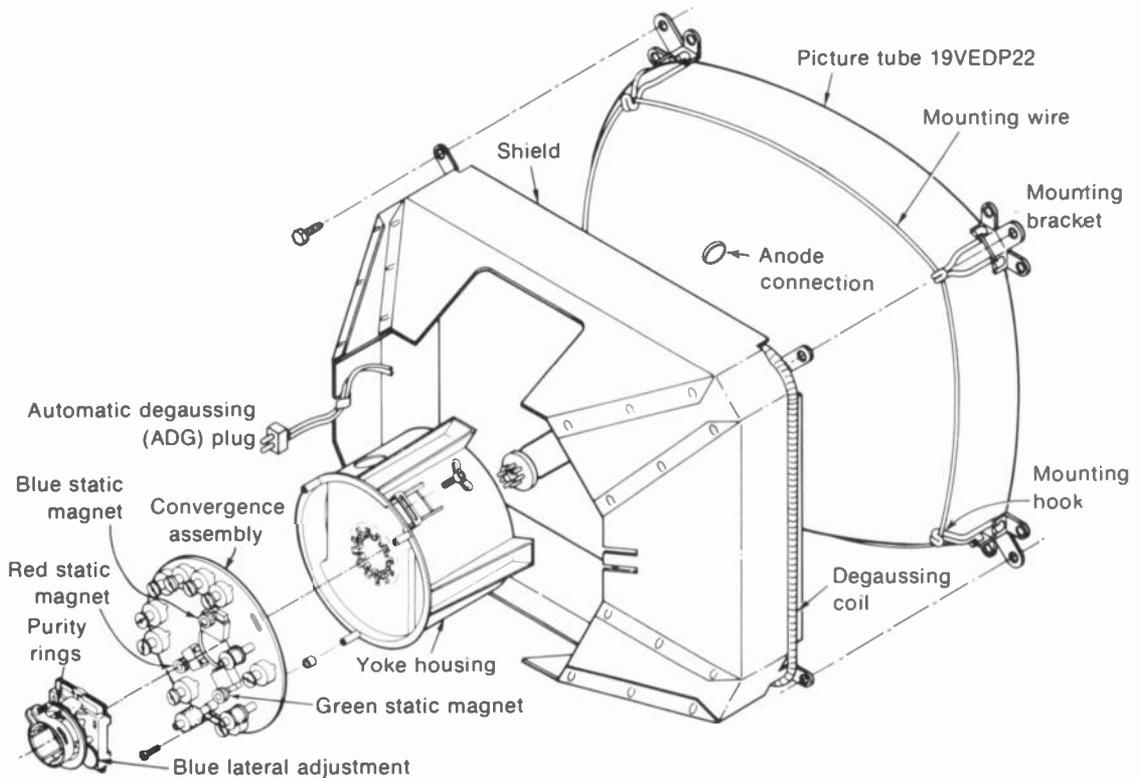
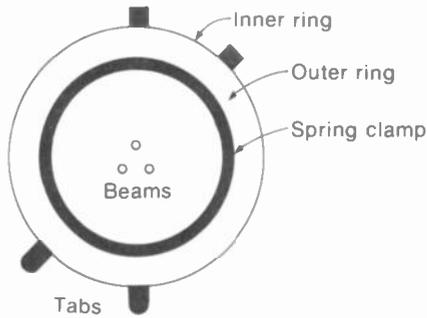
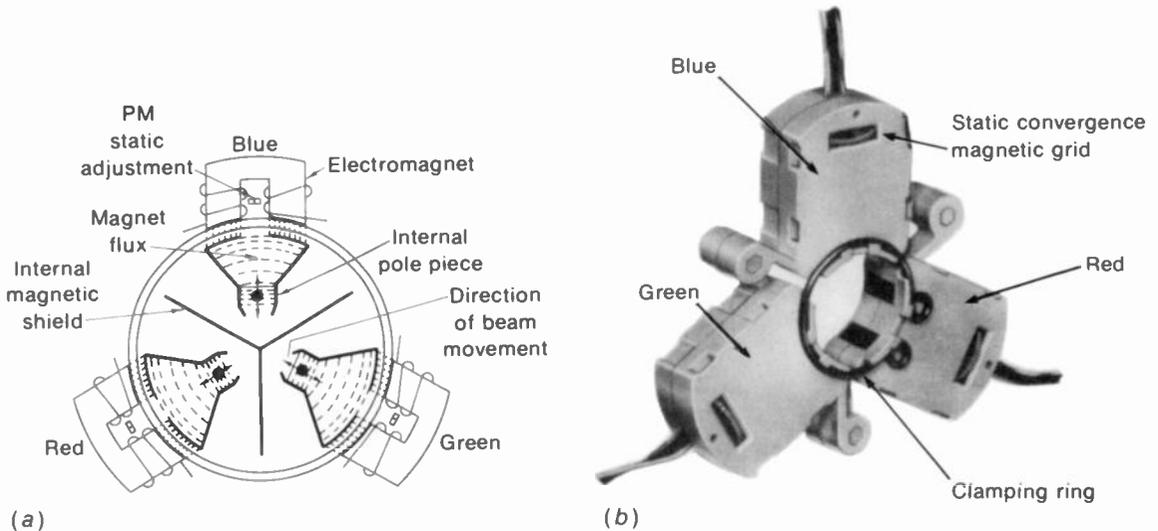
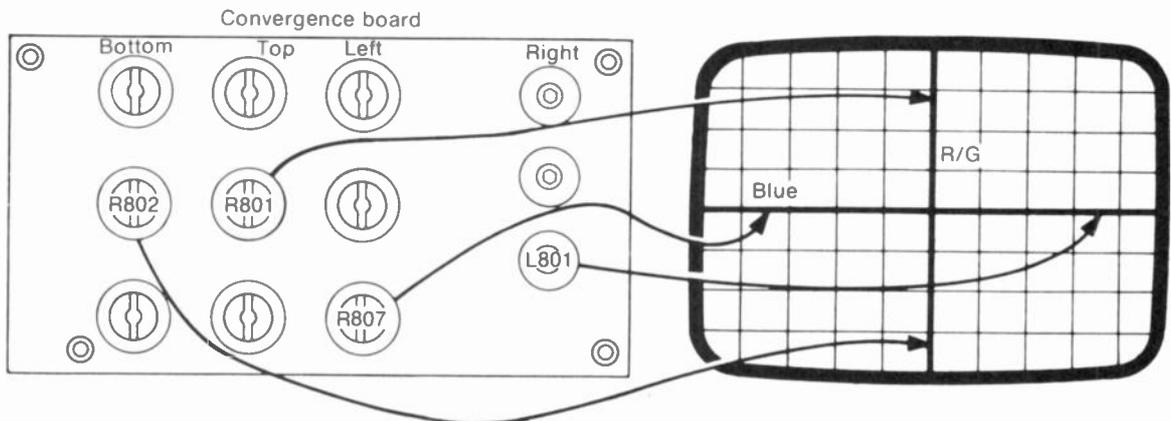

FIGURE 11-1 EXPLODED VIEW OF MOUNTING ASSEMBLY FOR COLOR PICTURE TUBE WITH DELTA GUNS, SHADOW MASK, AND PHOSPHOR-DOT TRIOS. (RCA CTC71 CHASSIS)
FIGURE 11-2 CONSTRUCTION OF PURITY MAGNET.
FIGURE 11-5 RADIAL CONVERGENCE MAGNET ASSEMBLY. (a) CONSTRUCTION. (b) PHOTO.
FIGURE 11-8 CONVERGENCE-BOARD ADJUSTMENTS WITH EFFECTS ON CROSSHATCH PATTERN. (RCA CTC46 CHASSIS)
Figure 11-1 shows a typical mounting assembly for a color picture tube in the receiver cabinet. This is a delta-gun tube, using a shadow mask with a phosphor-dot screen. The magnetic components on the neck include the deflection yoke against the wide bell, the convergence magnet assembly for red, green, or blue, and the purity magnet assembly, which also has the blue lateral magnet near the tube base. The convergence assembly, over the internal convergence cup, usually is about  $\frac{1}{2}$  in. from the deflection yoke, and the purity rings are 1 in. behind, at the space between grids 1 and 2. These magnets are all adjusted for correct purity and convergence on the phosphor-dot screen. Also shown is the external magnetic shield, with a wraparound degaussing coil for demagnetizing the picture tube. More details of the setup adjustments for this type of color picture tube are explained in the following topics:
The position of the purity magnet near the base of the picture tube, between grid 1 and grid 2, is illustrated in Fig. 11-1, while Fig. 11-2 shows a closer view of the ring magnets. Although the purity assembly usually has a blue lateral magnet for convergence, this is not used for the purity adjustments.
**Convergence yoke.** See Fig. 11-5. The entire assembly is mounted over the internal pole pieces of the three guns. Then the magnetic flux provided by each section is confined to affect only the one beam. Adjusting the strength of the flux from the convergence magnets moves each beam slightly. Because of the delta arrangement with the guns  $120^\circ$  apart, the red and green beams move diagonally, when you watch the dot pattern on the screen. However, the blue beam moves vertically. For this reason, the blue gun also has the lateral adjustment magnet to move the blue beam left or right. The blue lateral magnet is usually part of the purity ring assembly (Fig. 11-1). It should be noted that the picture tube can be designed to move any one beam vertically and horizontally, while the other two move diagonally for convergence, but blue is generally used for the perpendicular displacements.
**Dynamic convergence adjustments.** The adjustments may be on the convergence yoke, as in Fig 11-1, or on a separate convergence board, as in Fig. 11-8. The board usually mounts at the
**Automatic degaussing (ADG).** Receivers now have a coil around the front rim of the picture tube for automatic degaussing. In Fig. 11-1, the coil is wrapped around the metal hood made of 0.5-mm silicon steel. Current for the coil is taken from the 60-Hz ac power line. When the set is turned on, a high value of alternating current flows, which is then reduced to zero by the ADG circuit. In some receivers, the automatic degaussing operates when the set is turned off. In either case, the ADG circuit automatically degausses the picture tube each time the receiver is turned on or off. Because of the automatic degaussing, the receiver does not have to be facing in any particular direction with respect to the earth's magnetic field.